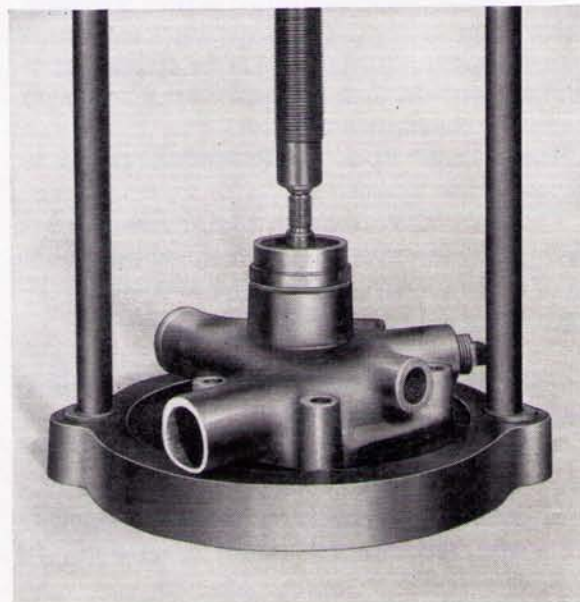

Fig. Q.4.
3. Press the shaft complete with impeller out of the body. See Fig. Q.4.